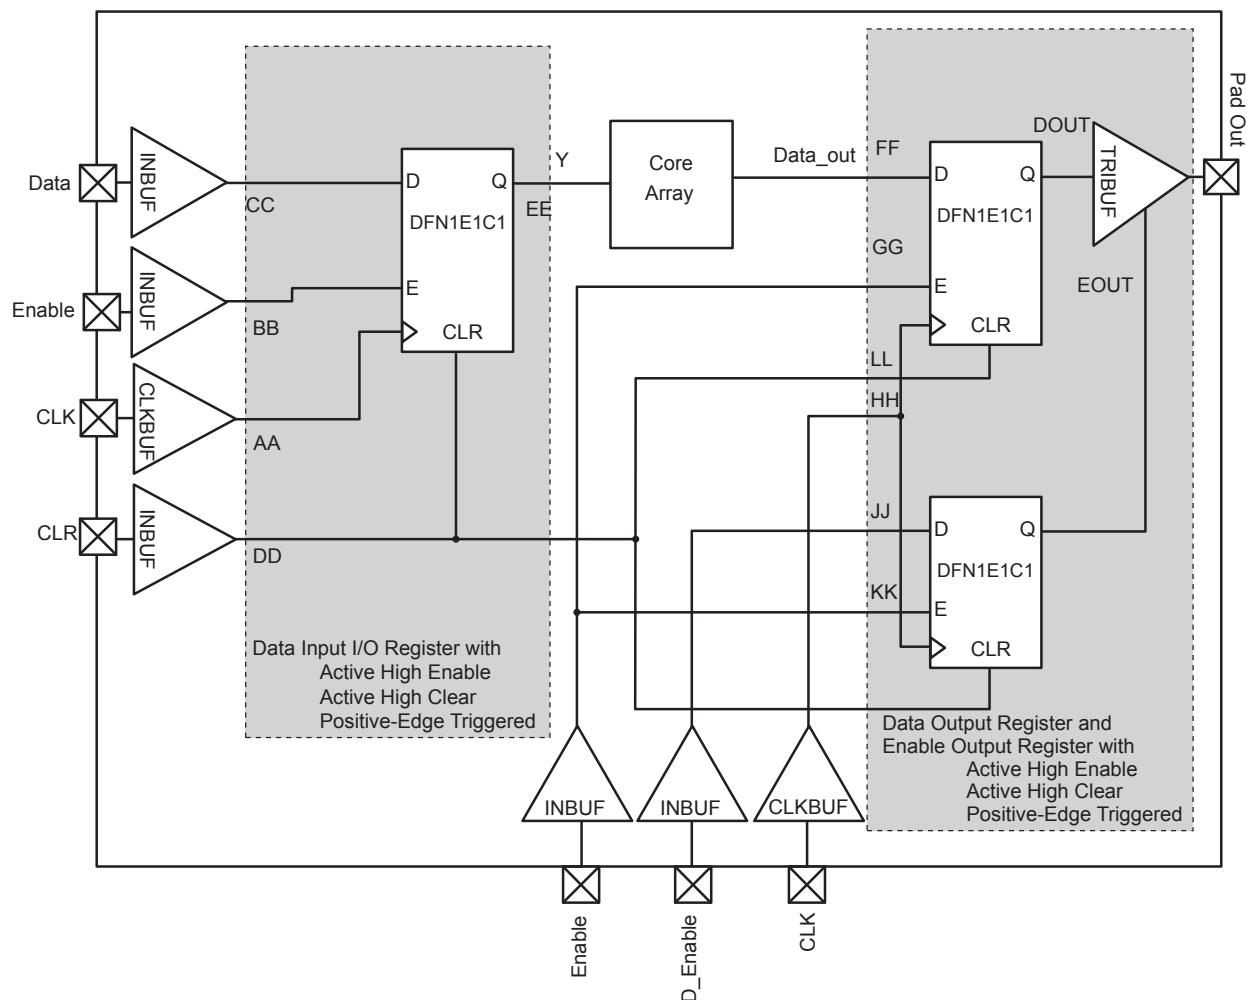

**Figure 2-17 • Timing Model of the Registered I/O Buffers with Synchronous Enable and Asynchronous Clear**
*Note:* \*See Figure 2-17 on page 2-85 for more information.